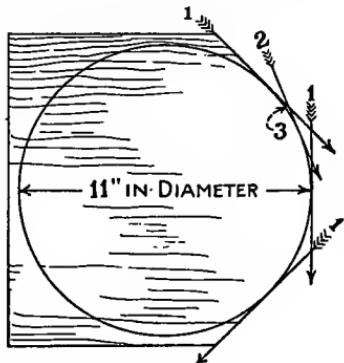

FIG. 584.
**A Wooden Wheel**, made as shown in Figs. 584 to 586. This wheel is made in two pieces. First describe two circles 11 inches in diameter upon a 12-inch board 2 feet long, and saw them apart; then saw off the four corners of each piece close to the line of the circle, as indicated by the arrows marked 1 in Fig. 584, then the eight corners thus produced, as indicated by the arrow marked 2 in the dia-